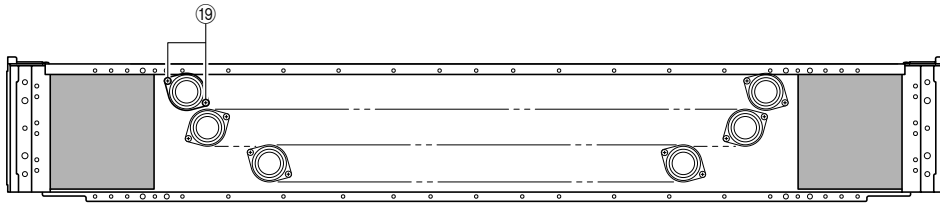

Fig. 10
- Remove 2 screws/piece marked (19). (Fig. 10)
- ⑲のネジ 2本/個を外します。(Fig. 10)